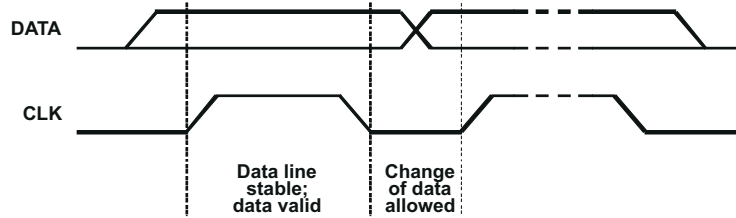
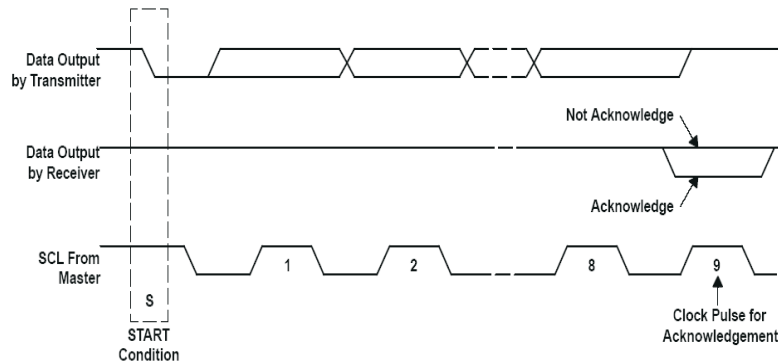

Figure 9-3. Bit Transfer on the Serial Interface
Figure 9-4. Acknowledge on the I²C Bus
The master then generates the SCL pulses, and transmits the 7-bit address and the read/write direction bit R/(W) on the SDA line. During all transmissions, the master ensures that the data is valid. A valid data condition requires the SDA line to be stable during the entire high period of the clock pulse (see Figure 9-3). All devices recognize the address sent by the master and compare it to their internal fixed addresses. Only the slave device with a matching address generates an Acknowledgment, ACK, (see Figure 9-4) by pulling the SDA line low during the entire high period of the SCL cycle. Upon detecting this Acknowledgment, the master knows that communication link with a slave has been established.